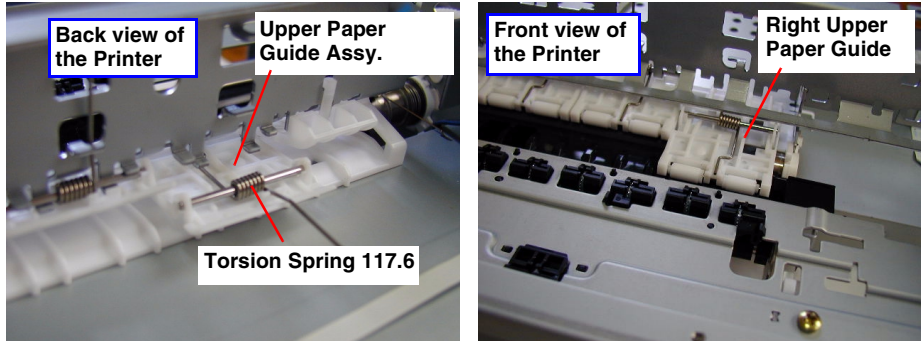

Figure 4-53. Removing the Upper Paper Guide Assembly
- 5) Remove the five Upper Paper Guide Assemblies and one Right Paper Guide Assembly, in the following direction, releasing their Torsion Springs 117.6 from the hooks on the Top Frame. Refer to Figure 4-53
- 3) Remove the Right Upper Paper Guide to forward releasing the Torsion Spring 117.6. Refer to Figure 4-53.